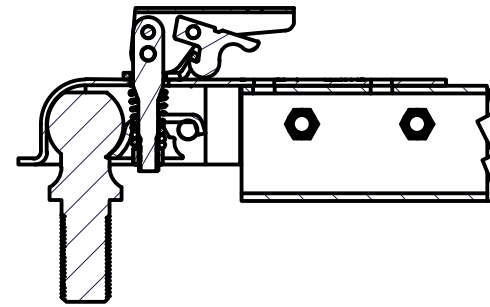

FIGURE 7:
5. Close the locking lever to the closed position (See Figure 7). DO NOT force the lever. If the locking lever does not close easily, trailer and tow vehicle may be misaligned. Re-align as necessary.